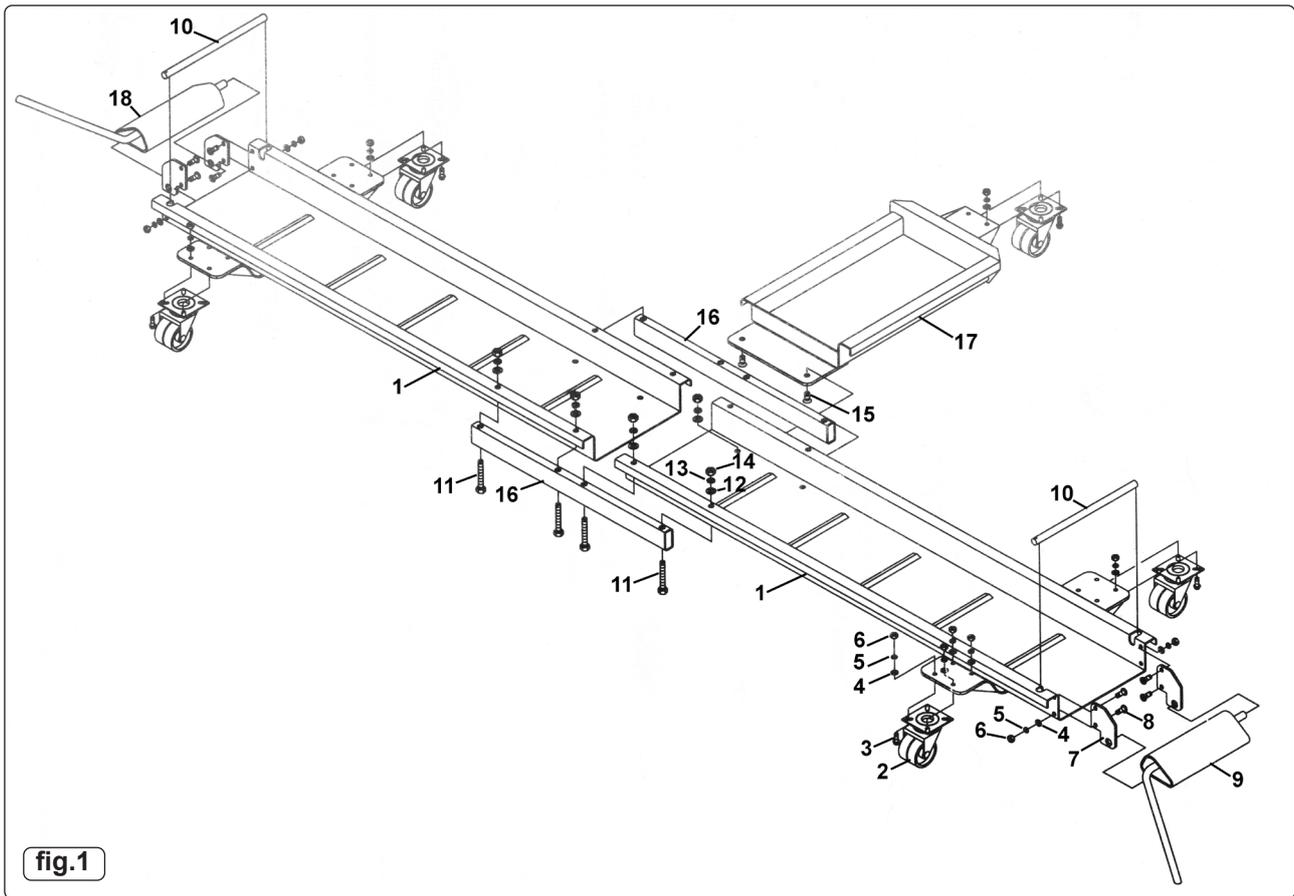

fig.1
- 4.1. Unpack the dolly and check contents with list above. Should there be any damaged or missing parts contact your supplier immediately. Numbers in brackets refer to item numbers in fig.1.